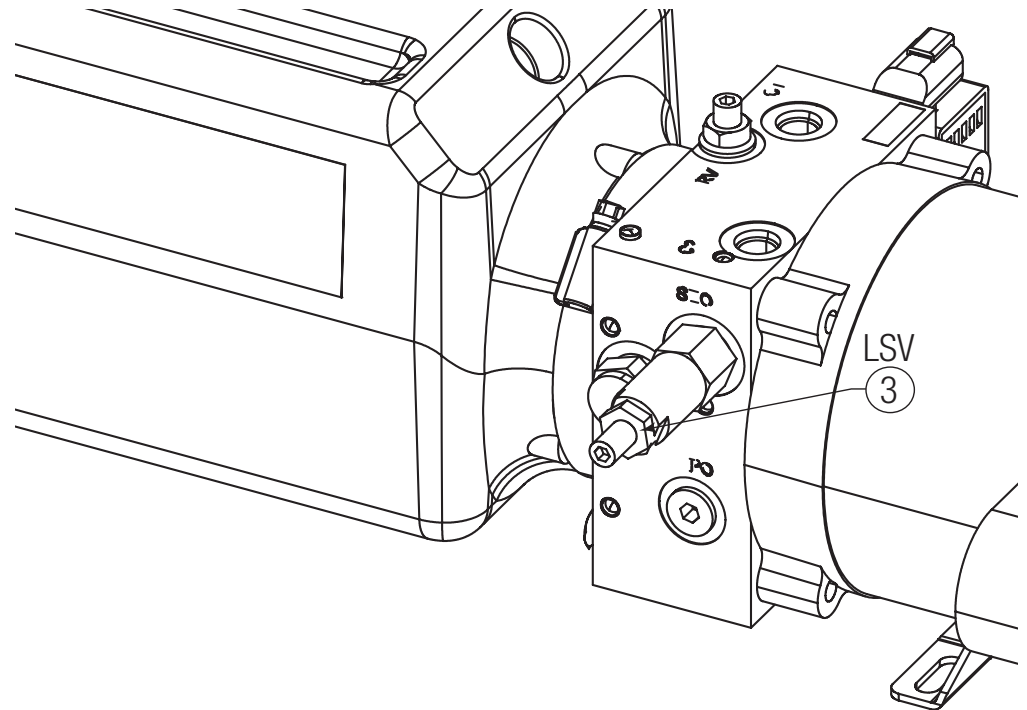

Figure 27
The lip raise speed is hydraulically-controlled by the Lip Sequencing Valve (3). The location of the LSV on the power unit manifold is shown in **Figure 27**. The valve opens to the lip cylinder when system pressure exceeds the LSV setting. This valve is factory set to 5-1/4 turns out (counter-clockwise) from the fully in position.